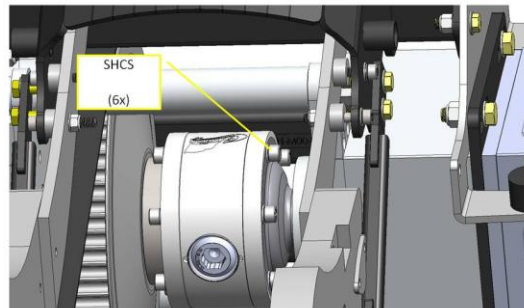

Figure 1
- a. Remove the six SHCS from the LHS of the differential as indicated in Figure 1.